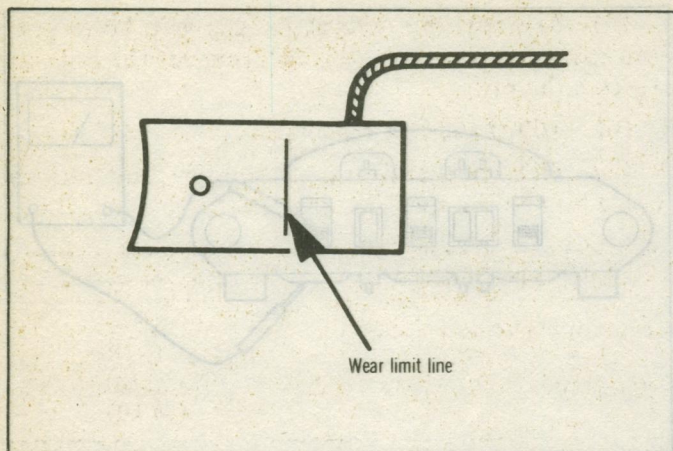

Fig. 62 Checking Brush Wear
(1) Check the length of the brush. A brush worn down to the wear limit line should be replaced. (Fig. 62)